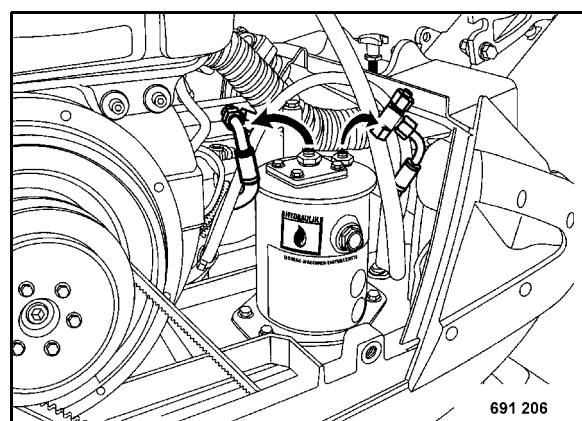

Fig. 76
- Remove the return hose (Fig. 76).